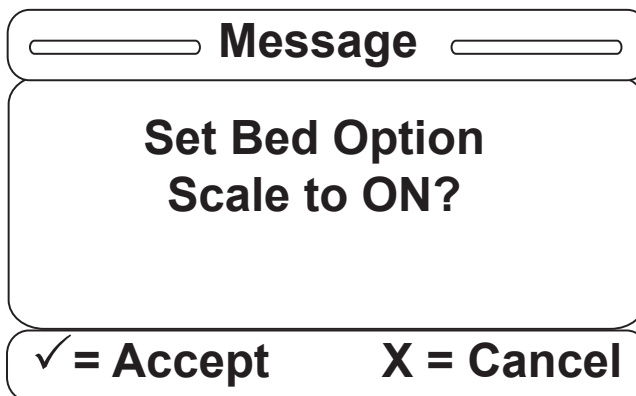

Figure S-10
10. Once you have selected one of the items, a confirmation screen will be displayed. The confirmation screen text will vary based on the item you have selected. The confirmation screen in Figure S-10 indicates that the Scale option was chosen to be ON. Hit “Enter” on the footboard panel to confirm your Scale option; hit “Exit” to cancel the operation.